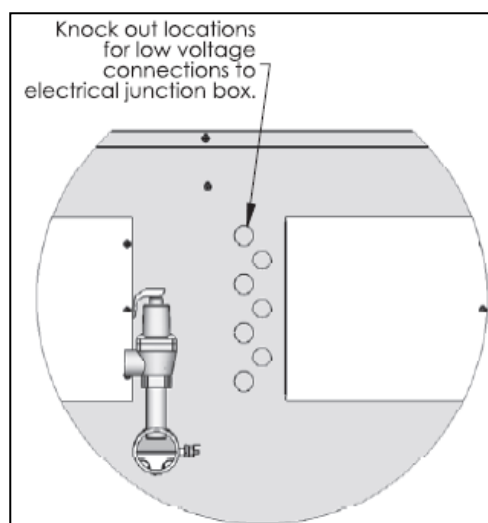

Figure 22
1. All low voltage cables should enter the electrical junction box through the provided knock out holes shown in Figure 22.